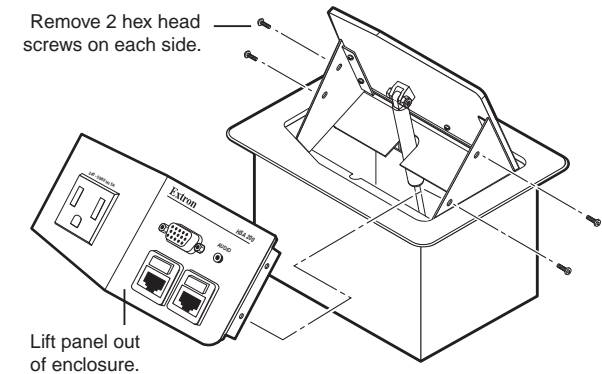

Figure 3-6 — Front panel removal (HSA 200 models)
6. (HSA 200 models only) Remove the four 1/16" hex head screws on the right and left sides of the front panel (figure 3-6). Retain the screws. Lift the panel away from the enclosure.
NOTE Figure 3-6 shows an HSA 200 model. Removing the front panel from an HSA 222 is an identical procedure.